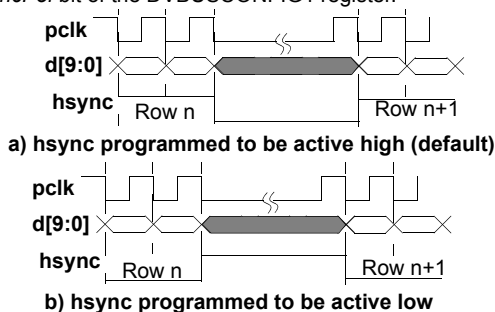

Figure 44. *hsync* in Level Mode
- **Level mode** should be used when the pixel clock, *pclk*, is programmed to operate in *free running mode*. In level mode the *hsync* output pin will go to the specified level (high or low) at the start of each row and remain at that level until the last pixel of that row is read out on *d[9:0]* as shown in Figure 44. The *hsync* level is always synchronized to the active edge of *pclk*. The *hsync* pin is put into level mode by setting the *HsyncMode* bit of the *DVBUSCONFIG1* register to a logic 0. The active level of the *hsync* pulse is programmed using the *HsyncPol* bit of the *DVBUSCONFIG1* register.